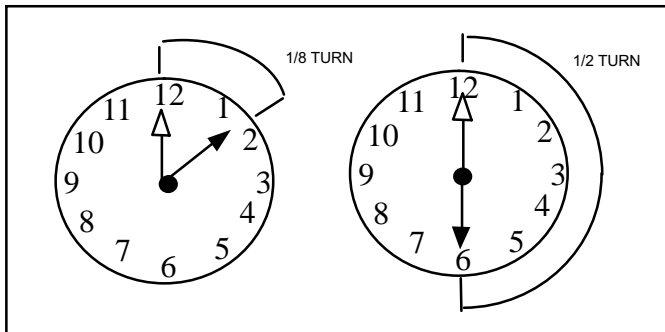

Figure 7. Tightening Distance
3. Connect the liquid line assembly with the brass nut to the liquid line orifice housing. Finger tighten and use an appropriately sized wrench to turn an additional 1/2 turn clockwise as illustrated in figure 7, or 20 ft-lb.
2. Attach the stubbed end of the TXV to the liquid line orifice housing. Finger tighten and use an appropriately sized wrench to turn an additional 1/2 turn clockwise as illustrated in figure 7, or 20 ft-lb.
4. Attach the liquid line assembly with brass nut to the TXV. Finger tighten and use an appropriately sized wrench to turn an additional 1/2 turn clockwise as illustrated in figure 7, or 20 ft-lb.
6. Connect the equalizer line from the TXV to the equalizer suction port on the suction line. Finger tighten the flare nut plus 1/8 turn (7 ft-lbs) as illustrated in figure 7.